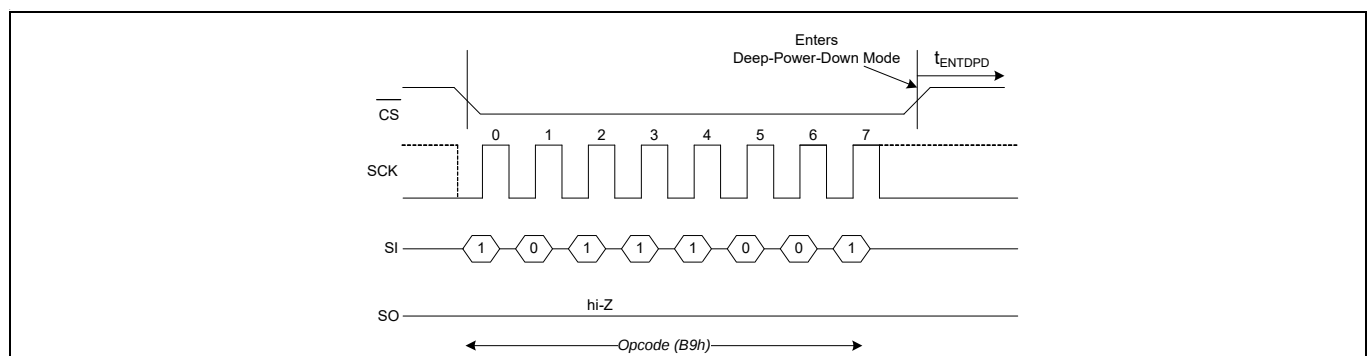
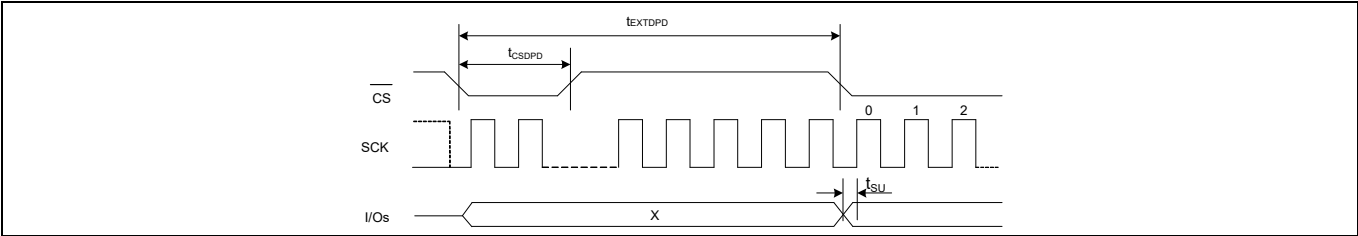

Figure 99 DPD entry in SPI mode
Figure 102 DPD exit in SPI mode
A $\overline{CS}$ pulse-width of t_{CSDDP} or hardware reset exits the DPD mode after t_{EXTDPD} time. The $\overline{CS}$ pulse-width can be generated either by sending a dummy command cycle or toggling $\overline{CS}$ alone while SCK and I/Os are don't care. The I/Os remain in hi-Z state during the wakeup from deep power down. Refer to Figure 99 for DPD entry and Figure 102 for DPD exit timing.
- The timing details shown in the Figure 99 are applicable as is in DPI and QPI modes.